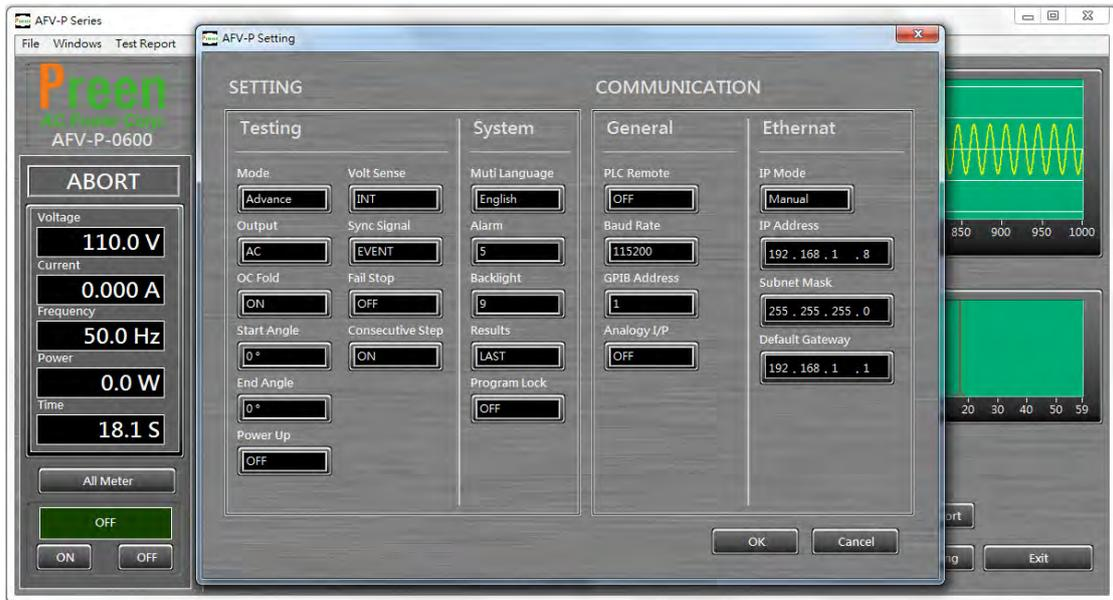

Figure 7.6 Setting page of the remote control software
- 14) Click to enter into the setting page of the remote control software (see Figure 7.6). The description for the items at the setting page of the remote control software is similar to the description for the SETTINGS page mentioned according to Subsection 3.5.